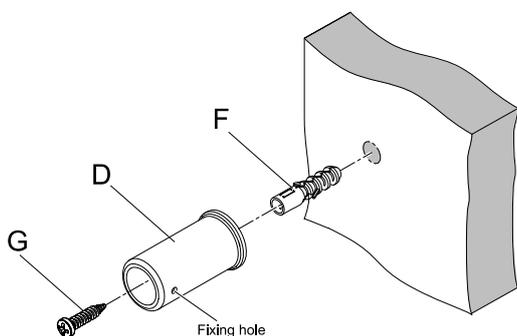

Fig. 3
2. Drill and plug (F) the wall to suit. Fix the outer wall bracket sleeve (D) to the wall using the screws provided (G). Ensure to align the bracket so that the fixing hole is accessible once the towel rail is fitted - see Fig. 3.